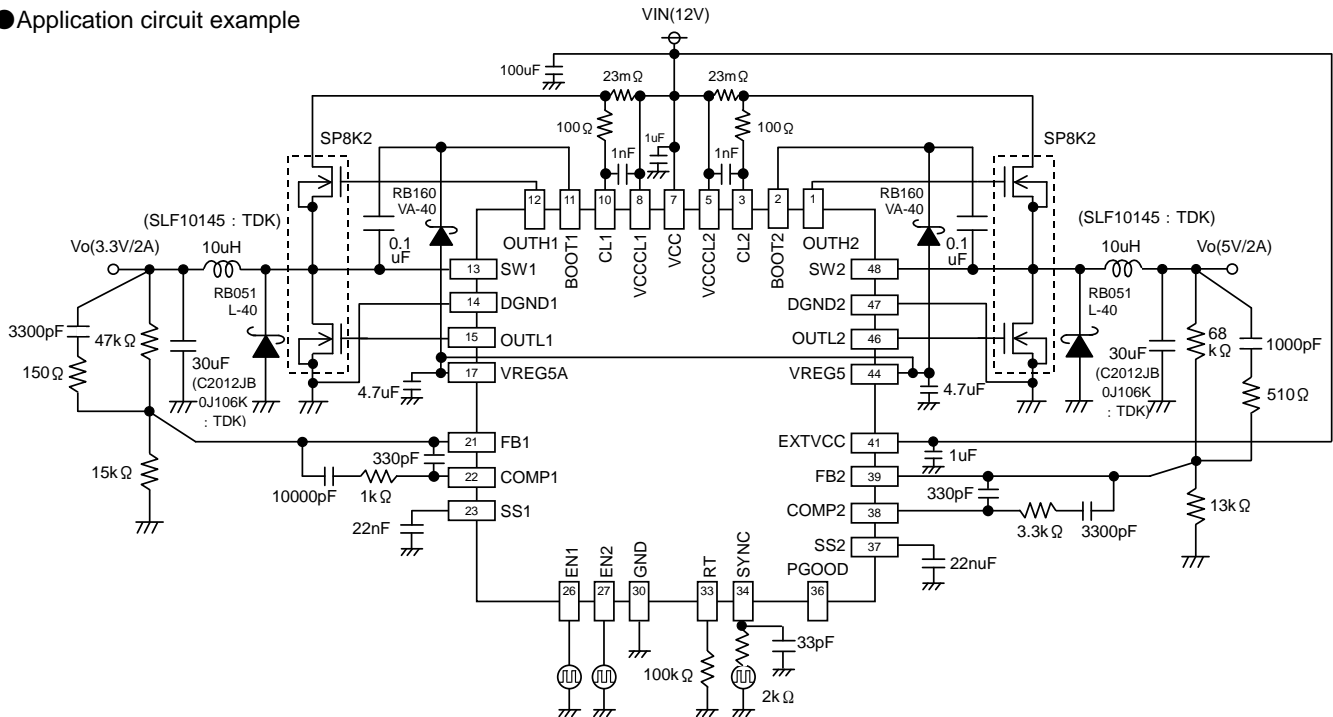

Fig. 13 (Step-Down)
The pulse width needs to be more than 200nsec for both on time and off time. Supply a pulse wave faster than the frequency determined with the setting resistor (RT), but slower than 600 kHz ($F_{osc} \times 1.5$ or less). Moreover, it is recommended to insert the low pass filter to the SYNC terminal. (Refer to Fig.13)